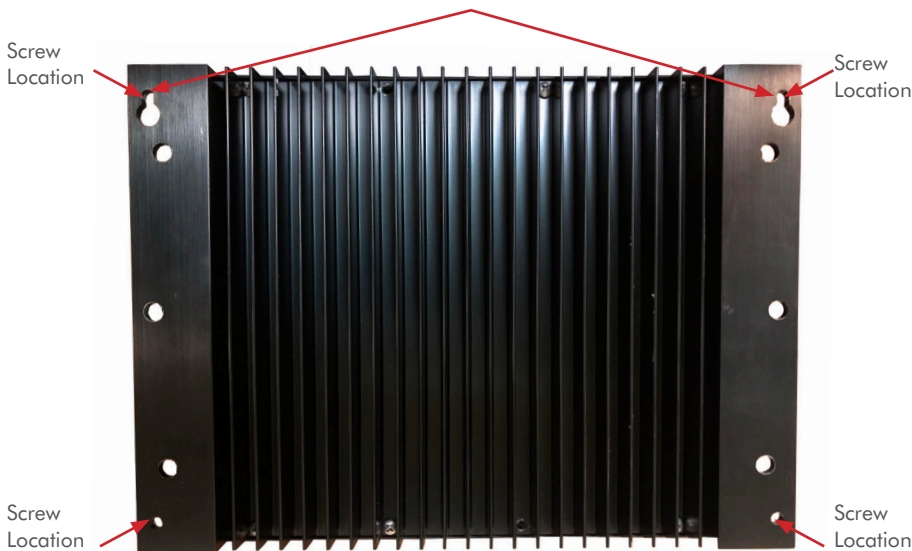

Figure 1
STEP 2: Hold CHARGE™ in place with the back flush against mounting surface and mark the upper two mounting holes with a fine-tip marker. **Fig. 1**
STEP 4: Using the Phillips-head bit, install the two upper **screws (B)** about 3/4 of the way into the mounting surface.
STEP 6: Hold the unit flush, drill holes, and completely install **screws (B)** in the bottom holes with a Phillips-Head driver. Finish by fully tightening the upper two **screws (B)**.